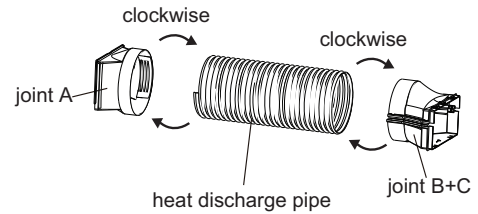

Fig.10
- (1) Rotate joint A and joint B clockwise into the two ends of heat discharge pipe. (As shown in Fig.10)